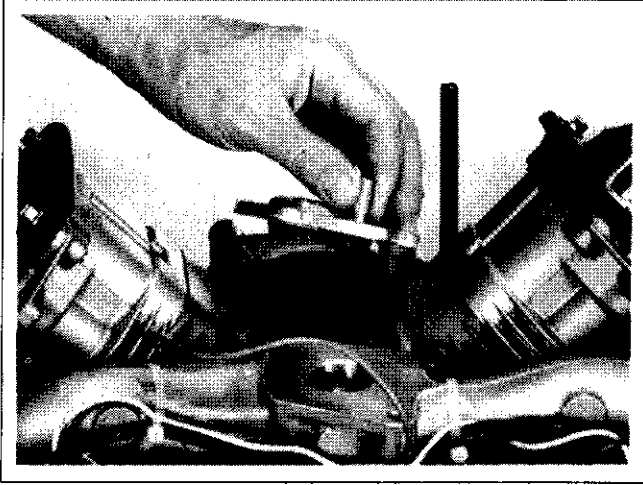

Figure 9-34. Removing Breather Cover.
5. Remove the breather cover. See Figure 9-34.